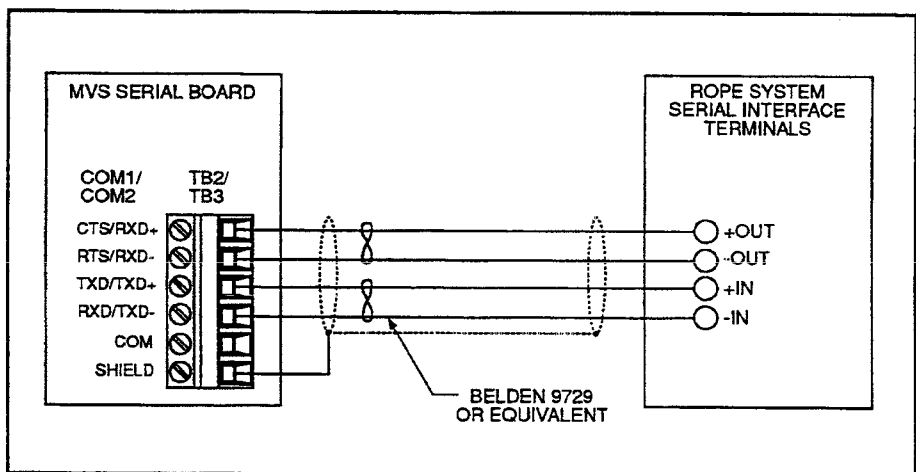

Figure H-1. MVS to ROPE Cable Connections.
6. Connect the four wires of the cable to the MVS Serial PCB as shown in Figure H-1.